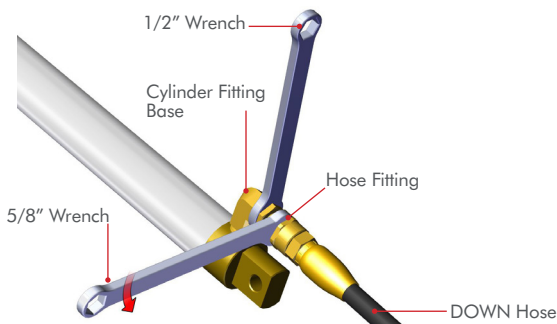

Figure 6
STEP 4: Repeat STEP 3 for the **Lower Hose Fitting**. **FIG 6**